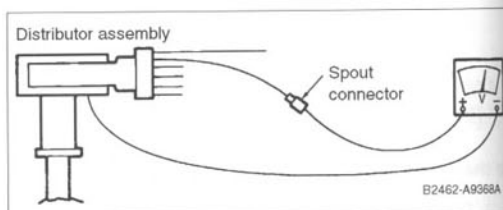

Fig. 4-2. Checking TFI-IV timing signal at SPOUT connector.
6. Measure voltage on test-pin side of the in-line TFI connector. See Fig. 4-2.